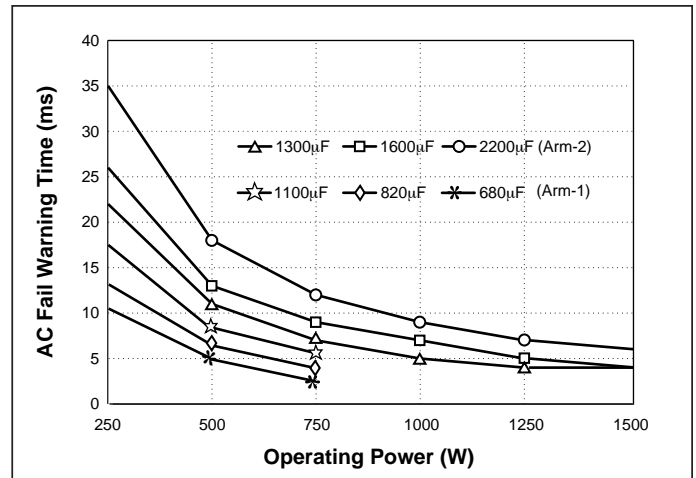

Figure 13—Hold-up time vs. operating power and total bus capacitance, series combination of  $C1$ ,  $C2$  (Fig. 8)
Calculated values of bus capacitance for various hold-up time, ride-through time, and ripple voltage requirements are given as a function of operating power level in Figures 13, 14, and 15, respectively.
**Determining Required Hold-up Capacitance.** Fig. 13 is used to determine hold-up capacitance for a given hold-up time and power level, and shows that the total bus capacitance must be at least 820 $\mu$ F. Since two capacitors are used in series, each capacitor must be at least 1,640 $\mu$ F. Note that hold-up time is not dependent on line voltage.